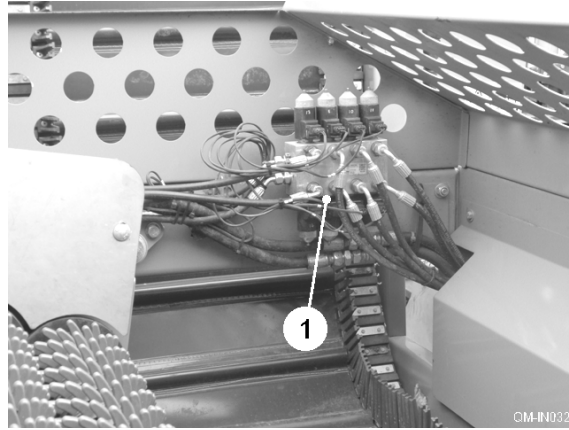

Fig. 26
The windrow slave valve (item 1, fig. 26) is powered from the auxiliary valve bank. The slave valve operates the conveyor side shift rams , fold rams and end angle rams.